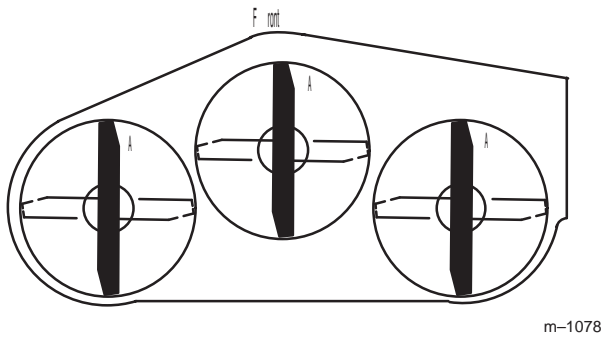
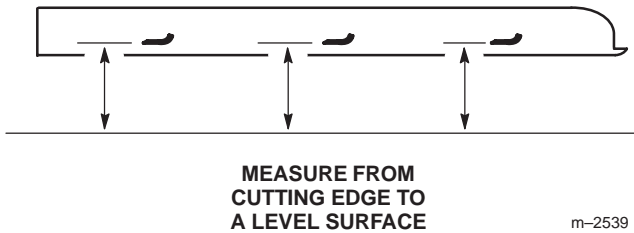

Figure 34
Figure 35
1. Rotate the blades until the ends face forward and backward (Fig. 34). Measure from a level surface to the cutting edge, position A, of the blades (Fig. 35). Note this dimension.